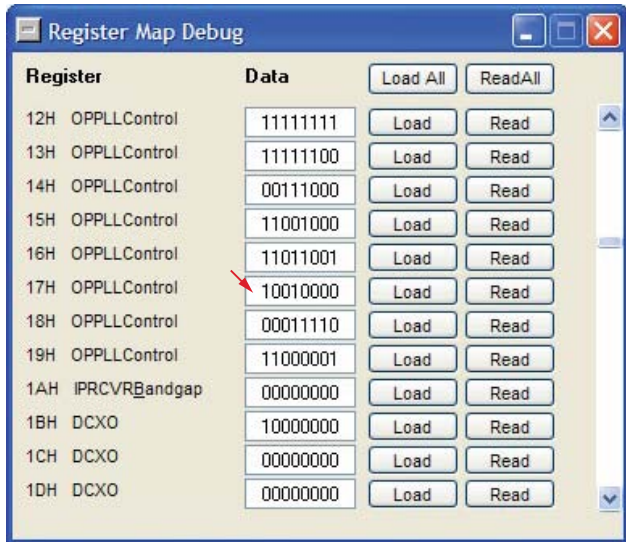

Figure 25. Register Debug Window
10. From the **View** menu in the main window, select **Register Debug Window**. The window shown in Figure 25 appears.